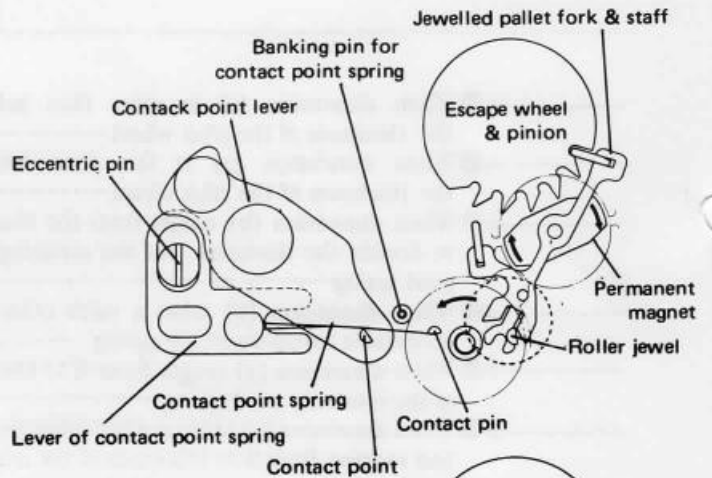

Fig. 4-13
2) Fig. 4-13 shows premature timing